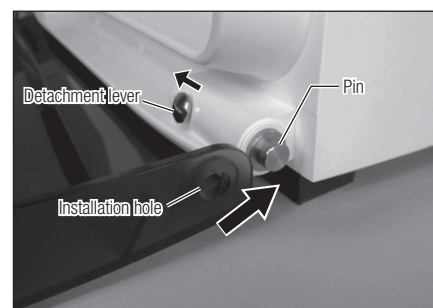

Fig. 24
- 2) Align the other installation hole on the door right side with the pin while pulling the detachment lever. Release the detachment lever. A 'click' sound will indicate that the door is secure (Fig. 24).